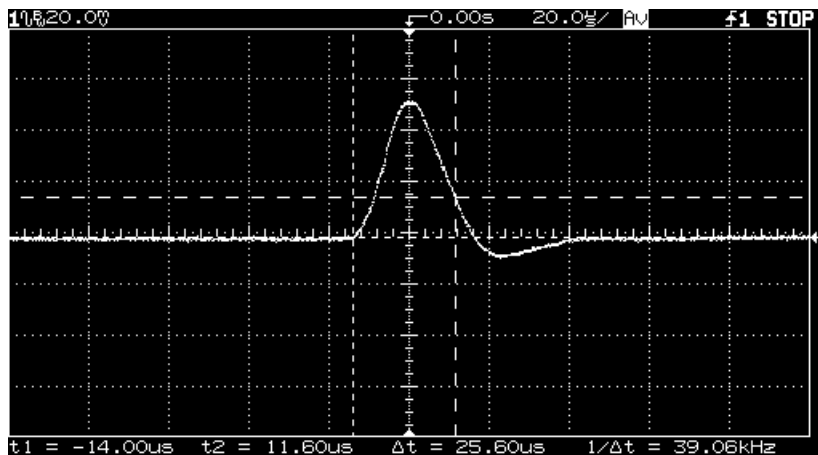

Figure 1-2 Transient response time
- 5** Adjust the the oscilloscope to display transients as shown in Figure 1-2. Note that the pulse width ($t_2 - t_1$) of the transients at 15 mV from the base line is no more than 50 msec for the output.